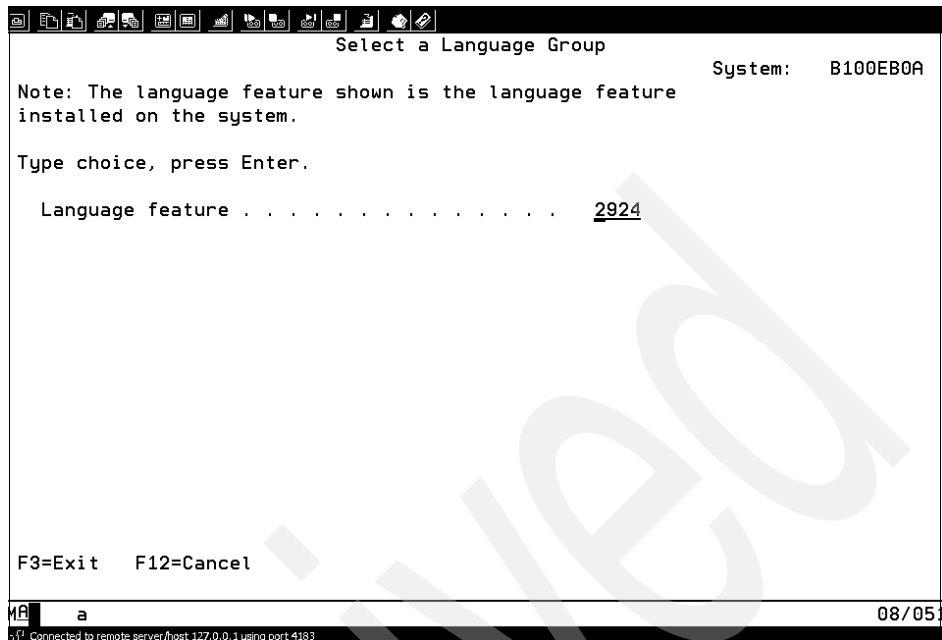

Figure 5-45 Select language feature
3. The Select a Language Group screen displays the primary language preselection, as shown in Figure 5-45 on page 264. This value should match the Language feature number that is printed in the installation media.